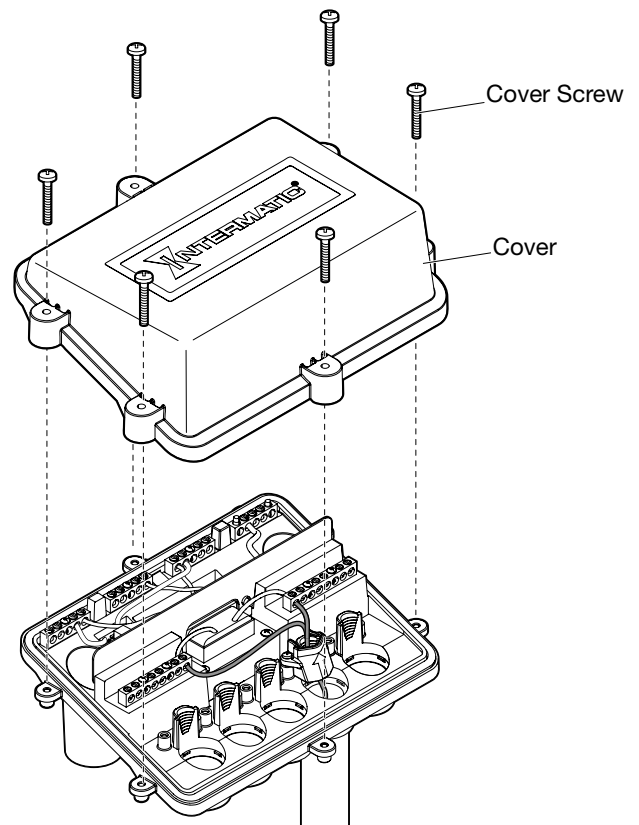

FIG. 11. Securing the Cover
13. Secure the cover using the six provided cover screws. Evenly tighten the screws until fully seated. Torque each screw to 19 in./lb. See FIG. 11.